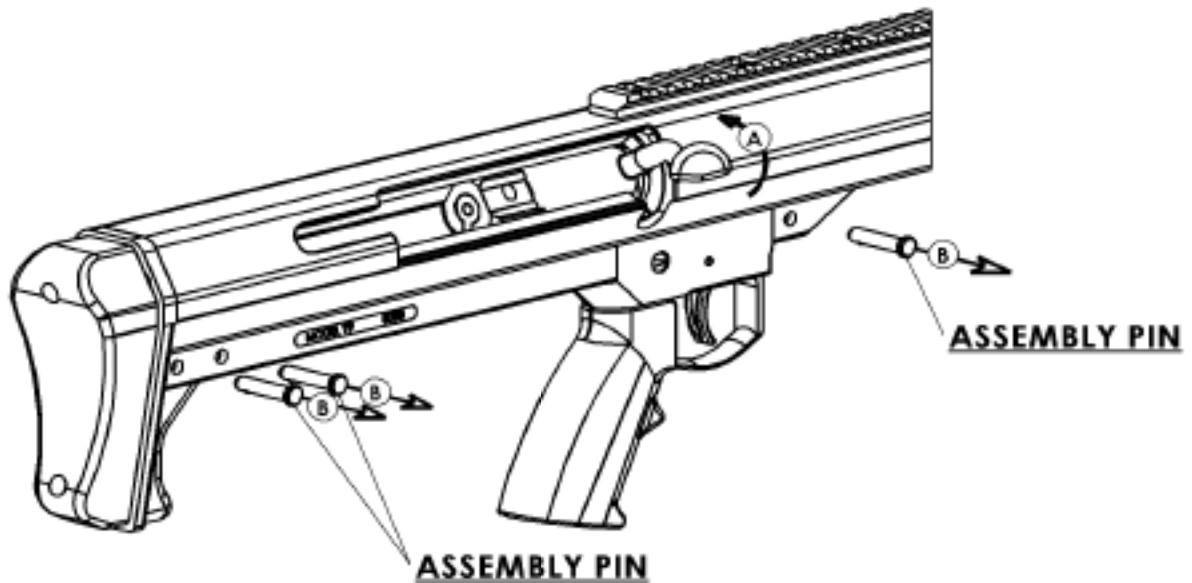

Figure 7.
2. Raise the bolt handle but do not retract it from the barrel. (Figure 7, step A.) Remove the two rear assembly pins and the forward assembly pin. (Figure 7, step B.)